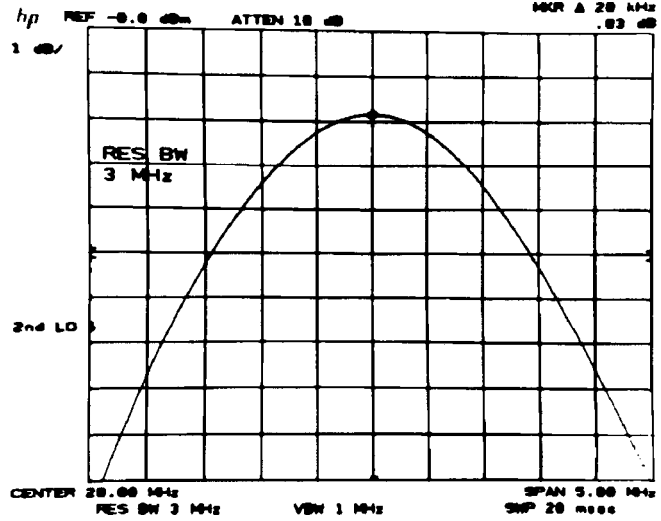

Figure 2-8. Bandwidth Switching Uncertainty Measurement
6. Key in settings according to Table 2-10. Press MARKER **[PEAK SEARCH]** at each setting, then read the amplitude deviation from the MARKER A readout at the upper right of the display (see Figure 2-8). The allowable deviation for each resolution bandwidth setting is shown in the table.